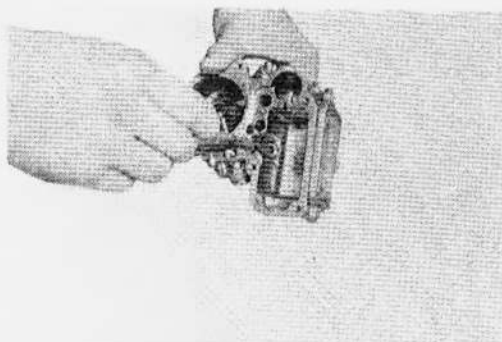

Figure 121
(9) Unloosen and remove metering rod jet (Fig. 121).